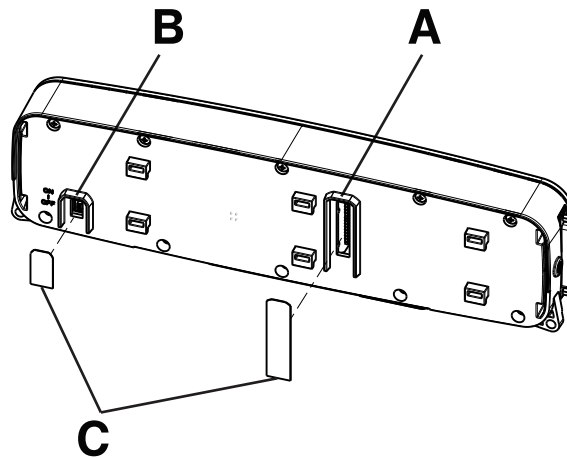

Figure 10 – Switch configurations
3. Using a straight pick, remove the label (521200380902) (C) that covers the ON/OFF switch (B) (Figure 10). Save the label.
4. Turn the **ON/OFF** switch (B) to the **OFF** position (Figure 10).